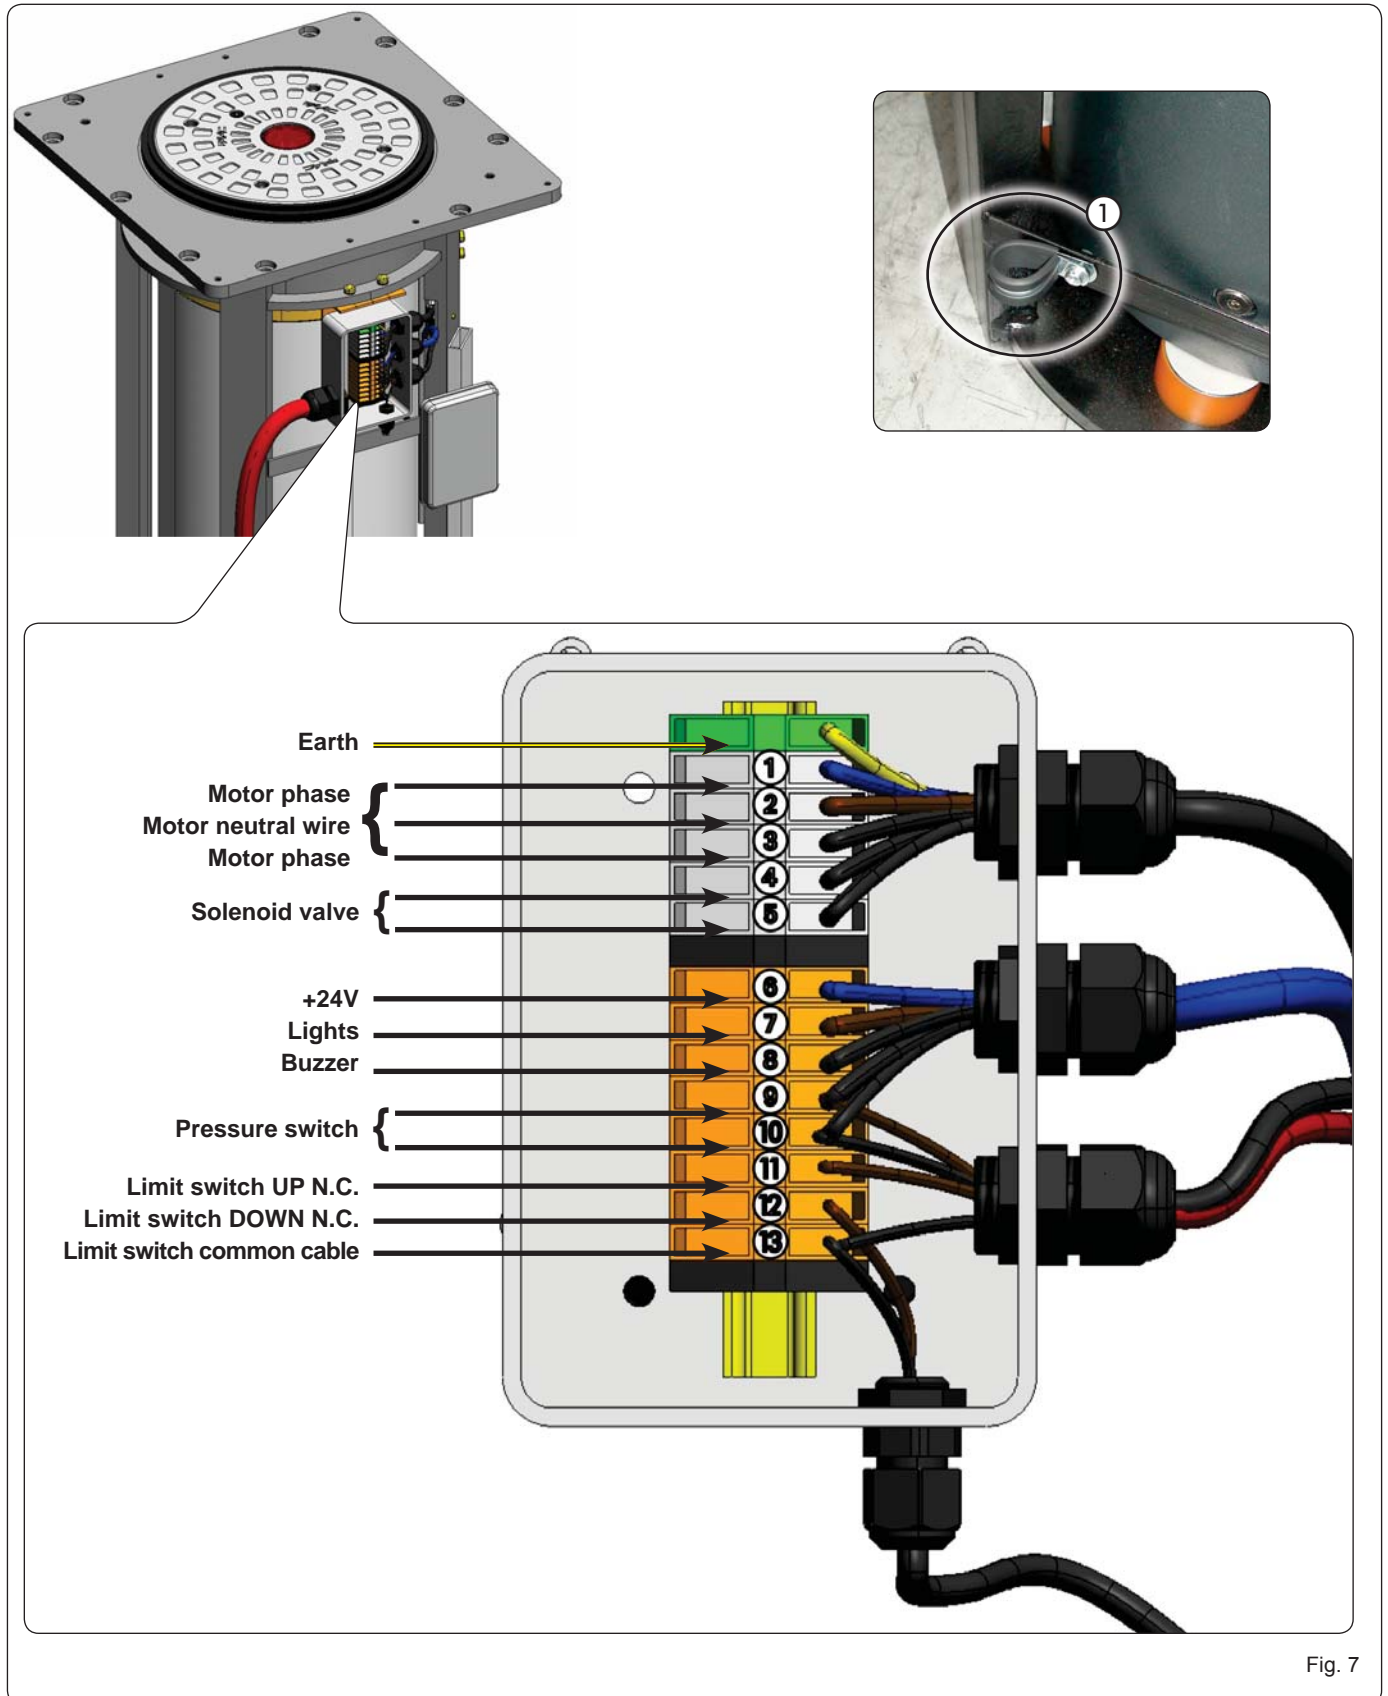

Fig. 7
For the connection of the bollard to the control unit, use a multi-pole cable, type **FG7OR-0.6/ kV- 6G 1.5 ( 16 cables of 1.5mm2) with max. length of 50 m**. This cable must be laid inside a sheath  $\varnothing$  45mm, secured to the cable clamp in the bottom part of the frame (fig. 7 ref. ①) and must come out of the pit by 1,2 m for the version H600 and by 1,6 m for the version H800. Perform the electric wiring in the junction box on the bollard side, as shown in the figure below.